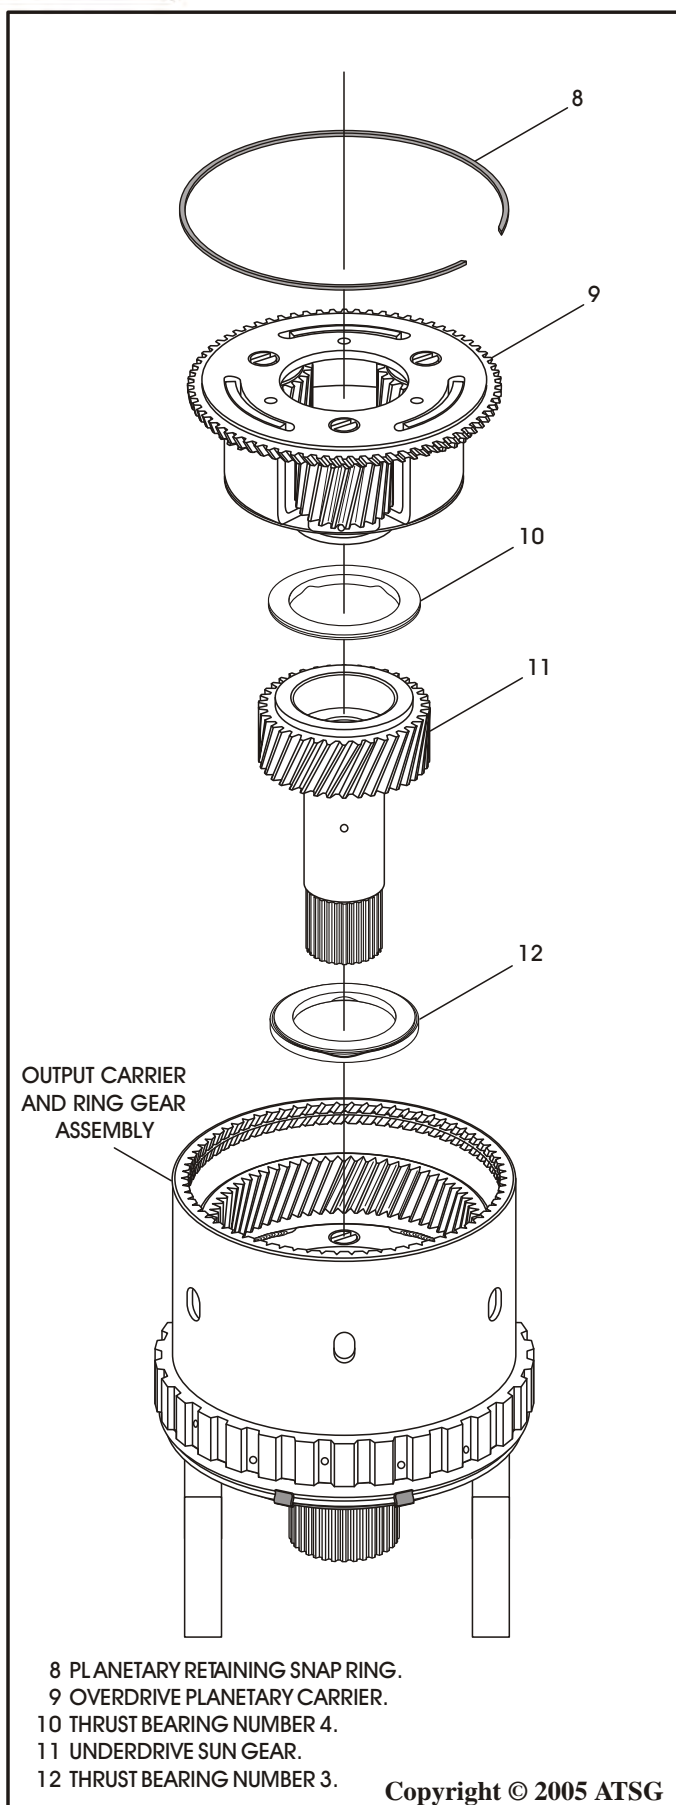

Figure 101
13. Install the number 3 thrust bearing into the output planetary carrier in the direction shown in Figure 101.
14. Install the underdrive sun gear into the output planetary carrier in the direction shown in Figure 101, and rotate into position to engage into planetary gears.
15. Ensure the number 4 thrust bearing (10) is still in place in the overdrive carrier (9). Refer to Figure 101.
16. Install the overdrive carrier and the number 4 thrust bearing as an assembly, by rotating into position, as shown in Figure 101.
17. Install the overdrive carrier retaining snap ring, as shown in Figure 101, and ensure that it is fully seated.